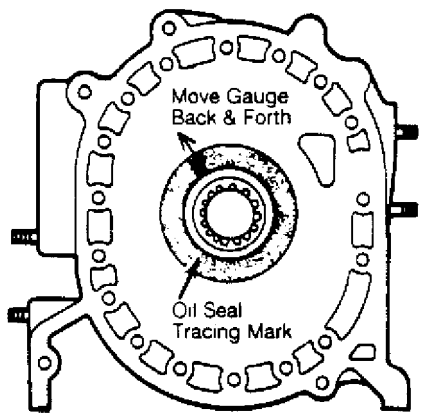

Fig. 8: Oil Seal Step Wear
6) Check oil seal step wear. Limit is .0008" (.02 mm). See Fig. 8.